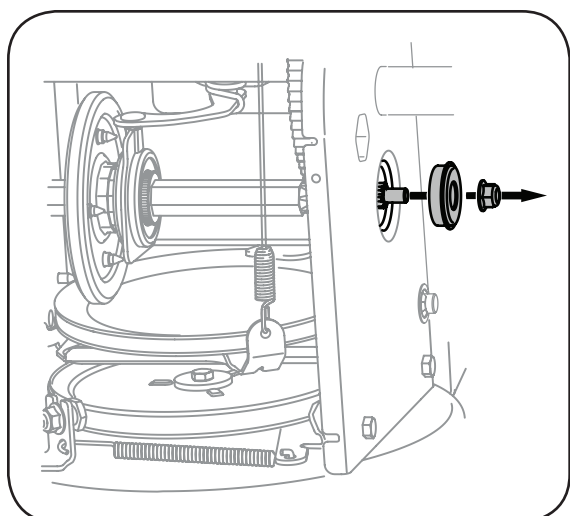

Figure 6-14
2. Carefully remove the hex nut and washer which secures the hex shaft to the snow thrower frame and lightly tap the shaft's end to dislodge the ball bearing from the right side of the frame. See Figure 6-14.